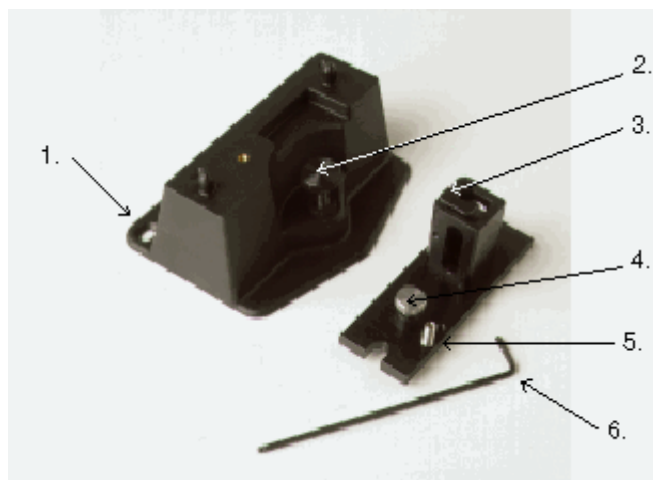

Figure 1. Cell holder base (left) and microcell holder (right)
A microcell holder (see Figure 1) is supplied as standard with the Cary 50. Follow these instructions to install and align it.
- b Firmly tighten the thumbscrew on the cell holder base (item 2 in Figure 1).
- 7 Using the 2.5 millimeter hexagonal ball driver, adjust the microcell holder adjustment screw (item 5 in Figure 1) and note the intensity of the light striking the paper. Continue to adjust the adjustment screw until the beam hitting the paper appears the most intense.